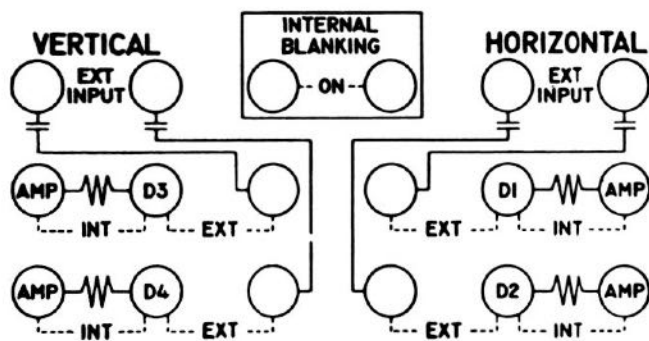

Figure 4-3. Rear Terminal Board TB105
b. APPLYING VOLTAGE DIRECTLY TO DEFLECTION PLATES. (See Figure 4-3)
i. RETURN TRACE ELIMINATION. (See Figure 4-3)